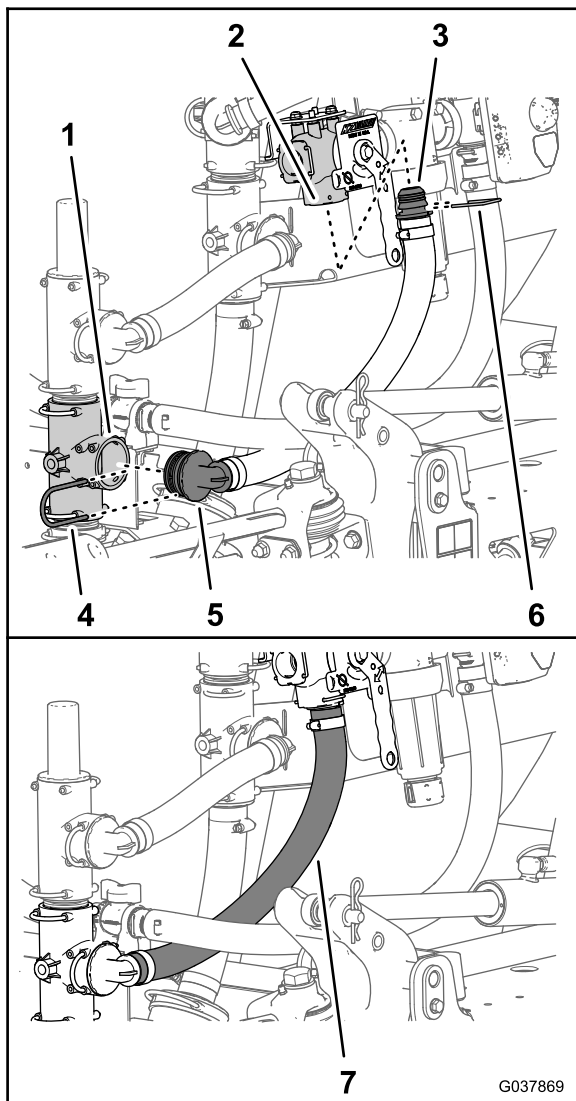

Figure 71
1. Assemble the straight barbed fitting of the sprayer supply hose—25 x 486 mm (1 x 19-1/8 inches) into the inlet port of the eductor shutoff valve (Figure 71).
2. Secure the straight barbed fitting to the eductor shutoff valve with the retainer that is supplied with the shutoff valve (Figure 71).
3. Assemble the 90° fitting of the sprayer supply hose into the open port of the T-fitting of the sprayer pump (Figure 71).
4. Secure the 90° fitting to the T-fitting with the retainer (Figure 71) that you removed in step 5 of Removing the Agitation Bypass and Sprayer Supply Hoses (page 17).